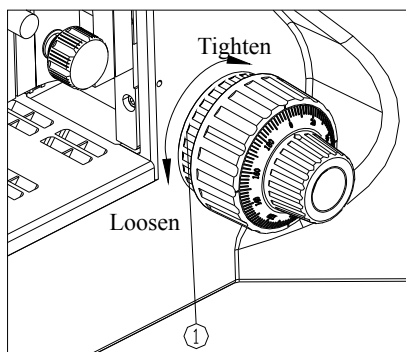

Fig.17
If the handle is very heavy when coarse focusing or the specimen leaves the focus plane after focusing, or the stage declines itself, please rotate the tension adjustment ring① as the arrow direction, to solve the problem. (See Fig. 17)